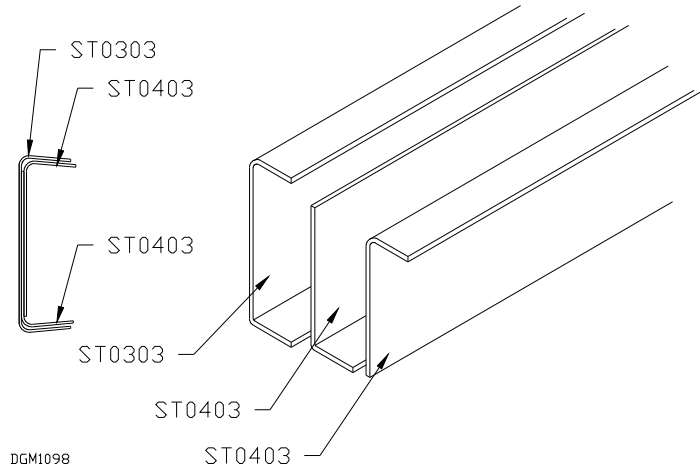

Fig 2.6.1
1. Take the Rear Spar [ST0303] and nest the two Rear Spar Doublers [ST0403] into it. Fig 2.6.1 Note the orientation of the doublers. Ensure the ends are flush and clamp to secure.